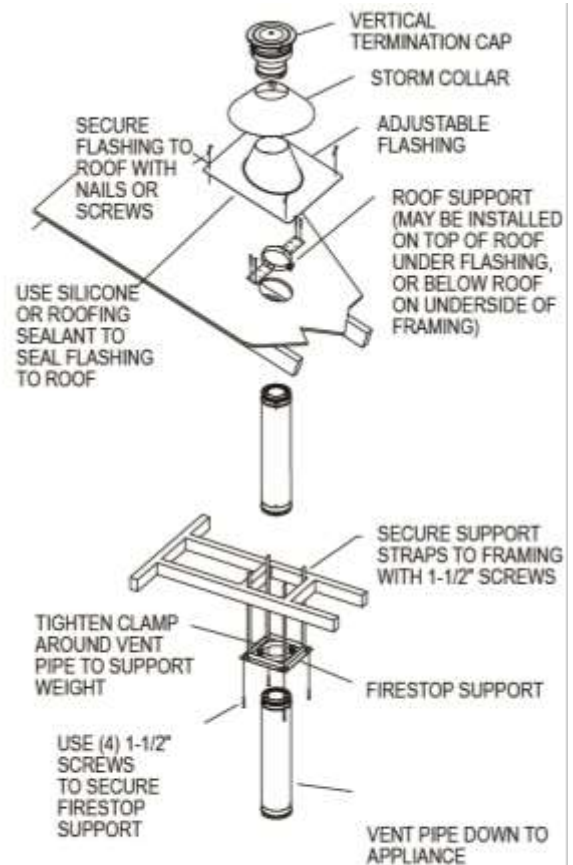

Figure 7
5. Install CVS Vent Pipe. If your appliance requires an Appliance Adapter, install it onto the appliance. Twist-lock on the first section of CVS vent pipe and continue to add vent pipe sections for your installation. As the vent passes through Firestop Supports, tighten the supporting clamp around the vent pipe. Any elbow offsets must be supported by Wall Straps. Wall Straps must be used to support any horizontal or inclined sections longer than 8-ft. Plumbers tape is allowed to be used to support the vent pipe for interior offsets only, if nearby walls/ceilings/framing members are not close enough to use the Wall Straps. As the CVS vent passes through the roof, install a Roof Support at the roof level to hold the vent in place, if there are no Wall Straps within 8-ft (**Fig 7**). The Roof Support is clamped around the vent pipe and is secured to the topside or underside of the roof with at least (4) nails or wood screws.
Install enough vent pipe through the roof penetration to allow the Adjustable Flashing to fit over the pipe. The Adjustable Flashing will fit roofs from 0/12-12/12 pitch. Slide the Flashing over the vent pipe and secure to the roof. The upper edge of the flashing should slide under the uphill shingles/roofing material, if applicable. Use appropriate roofing sealant to weatherize the flashing to the roof, and secure the flashing in place using at least (4) roofing nails/screws per side of the flashing (**Fig 7**).
The vent pipe must extend above the roof a minimum of 12", but the installation must also meet any additional height requirements as specified in the appliance manufacturer's installation instructions. Once the required vent height has been reached, twist-lock the Vertical Termination Cap onto the top section of CVS vent pipe to complete the Vertical Installation (**Fig 7**). If more than 4 feet of CVS extends above the roof, then the vent pipe will need to be supported.